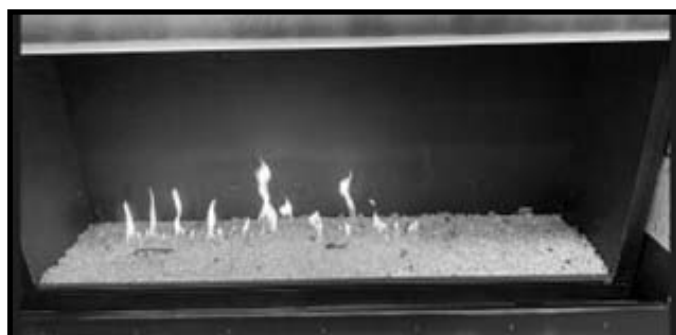

Figure 11.8 Incomplete Burner Lighting
- Turn the appliance on. Wait for the 2 minute pre-purge and ensure that the entire burner lights. If the burner does not light smoothly or completely, note the location that the flame stops or pauses. Figure 11.8 shows an example of incomplete lighting.